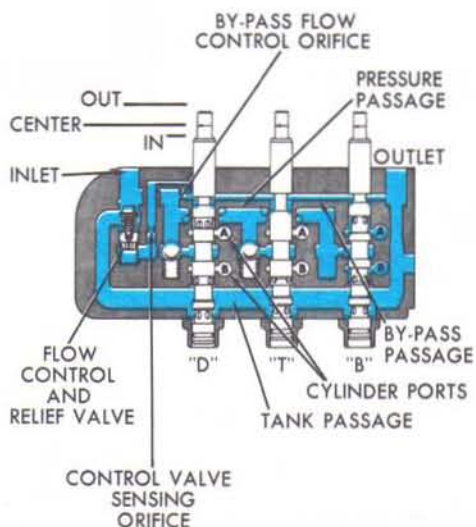
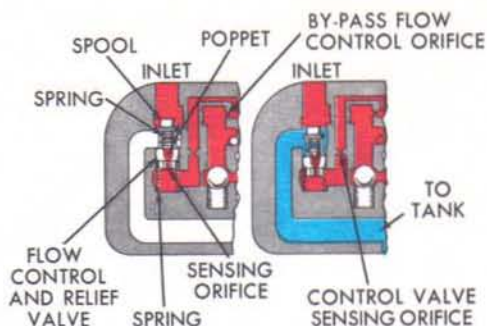

Figure 122
Figure 130
Internal passages through the valve bank (Figure 122) are a pressure passage, tank
The smaller size of mobile directional valves is designated as the CM11 series. It is available with a double acting cylinder spool (D), orificed double-acting spools (A, A3, A4, A6 and A8), a double-acting meter spool (B), two types of single acting spools (T and W) and a float spool (C). The inlet relief valve shown in Figure 122 is the partial flow by-pass design, which limits flow through the by-pass passage in neutral for improved pressure drop characteristics. Earlier valves used a simple relief valve. Optional features include electric switch actuators, spool detents and narrow by-pass spools.
These valves are operated manually . . . either by handles mounted on the valves themselves or by linkage to remote controls. In Figure 122 you see the condition of a
In the latest design, we provide a partial flow by-pass system, where the compound relief valve also functions as a pressure-compensated by-pass type flow control (Figure 130). An orifice at the entrance to the by-pass limits by-pass flow to about seven gpm. The rest of the flow is diverted to the tank passage. In older designs, all pump delivery had to go through the by-pass. This often resulted in very high pressure drop when the pump was driven at high speed.
and controls flow through the by-pass rather than to the load. This operation is illustrated in Figure 122. When a spool is shifted to block the by-pass, the flow control becomes inoperative and the valve operates as a compound relief valve (Figure 130). We have described this operation in detail earlier in the chapter.